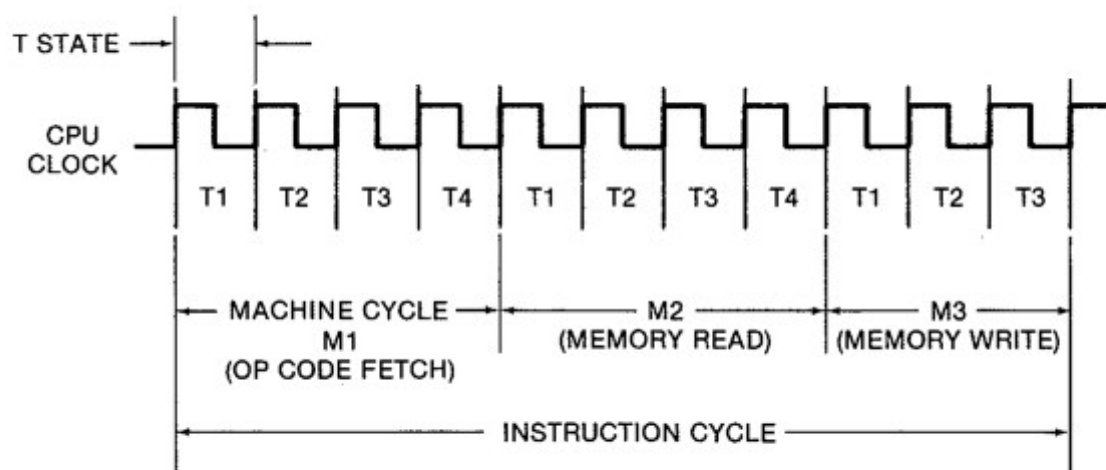

Fig. 4-4. CPU timing for executing a typical instruction. (Courtesy MOSTEK Corp.)
All CPU's operate by repeating a few basic steps over and over. These steps are performed according to a complex interconnection between various circuits within the CPU. These circuits operate "synchronously"; that is, they all perform their functions at a very specific time. All of the circuits within a Z80 are timed in accordance with a single clock signal. In the T/S 2068, this is a 3.528 MHz square wave which is derived from the 14.112 MHz master oscillator inside the computer. Each cycle of the CPU clock causes a specific action to take place within the Z80. This is also referred to as a *T cycle*. It takes several T cycles to perform a *machine cycle*. Each machine cycle represents the transfer of one byte into or out of the CPU. An *instruction cycle* consists of one or more machine cycles and represents the smallest unit available to the machine language programmer. Fig. 4-4 shows the basic CPU timing for an INC (HL) instruction. This operation involves reading the value of a memory location into the CPU, adding one to this value, and then storing the new value back into the memory location.